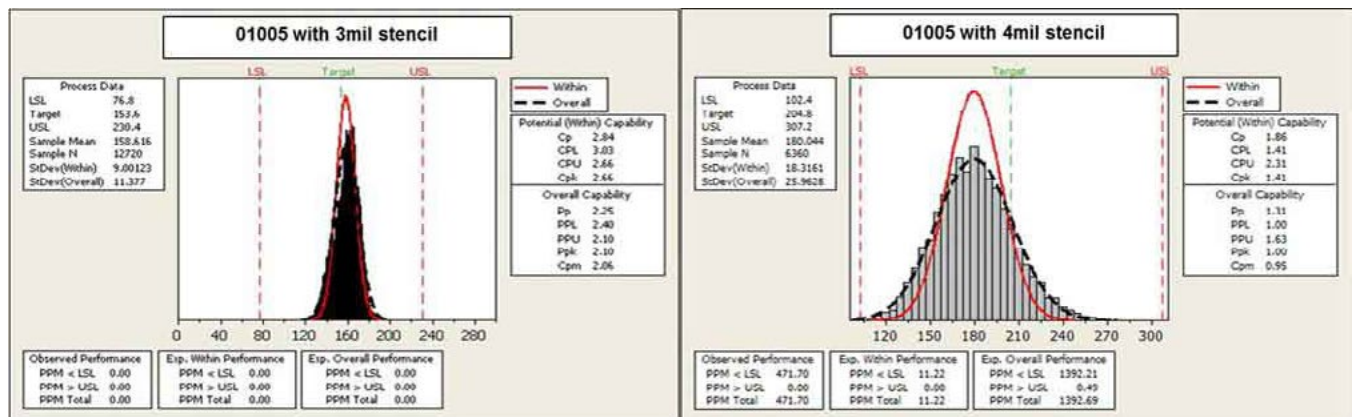

Figure 6: Volume Cp, Cpk, Pp and Ppk with 3 mil and 4 mil stencil thickness.
All the Cp and Cpk calculations used statistical software. True Cp and Cpk using this software are Pp and Ppk since this is the overall calculated capability (Figure 6 and Table 1).
Using a 3 mil (75 μ m) stencil gives a much higher Pp and Ppk compared to a 4 mil (100 μ m) stencil (Figure 6) and this is expected due to an area ratio (AR) of 0.5 with a 4 mil (100 μ m) stencil and 0.66 with a 3 mil (75 μ m) stencil.